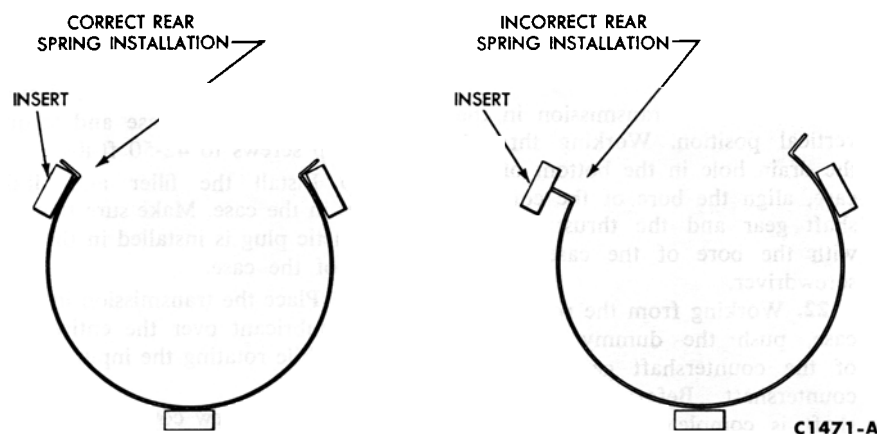

FIG. 20—First and Reverse Speed Synchronizer Insert Spring Installation
3. Install the rear insert spring (Fig. 20) in the groove of the first and reverse synchronizer hub. Make sure that the spring covers all insert grooves. Start the hub in the sleeve making sure that the alignment marks are properly indexed. Position the three inserts in the hub making sure that the small end is over the spring and that the shoulder is on the inside of the hub. Slide the sleeve and reverse gear onto the hub until the detent is engaged. Install the front insert spring in the hub to hold the inserts against the hub.